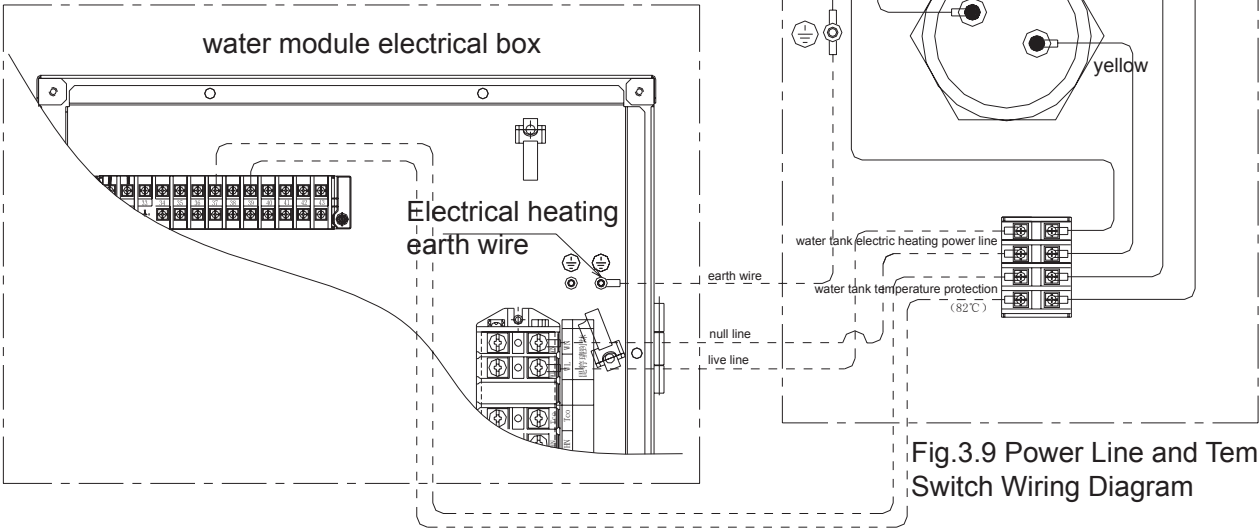

Fig.3.9 Power Line and Temperature Switch Wiring Diagram
- (1) Correctly mount cable water proof head and electrical box cover, preventing short circuit caused by water intruding into electrical box.
- (2) Auxiliary electric heating is 3kW. Power line connection should give concern to live line and null line, and be grounded strictly. Detailed wiring diagram refers to wiring diagram and Fig.3.9.
- (3) Temperature sensor is weak electricity signal, preventing mixed with strong electricity signal.